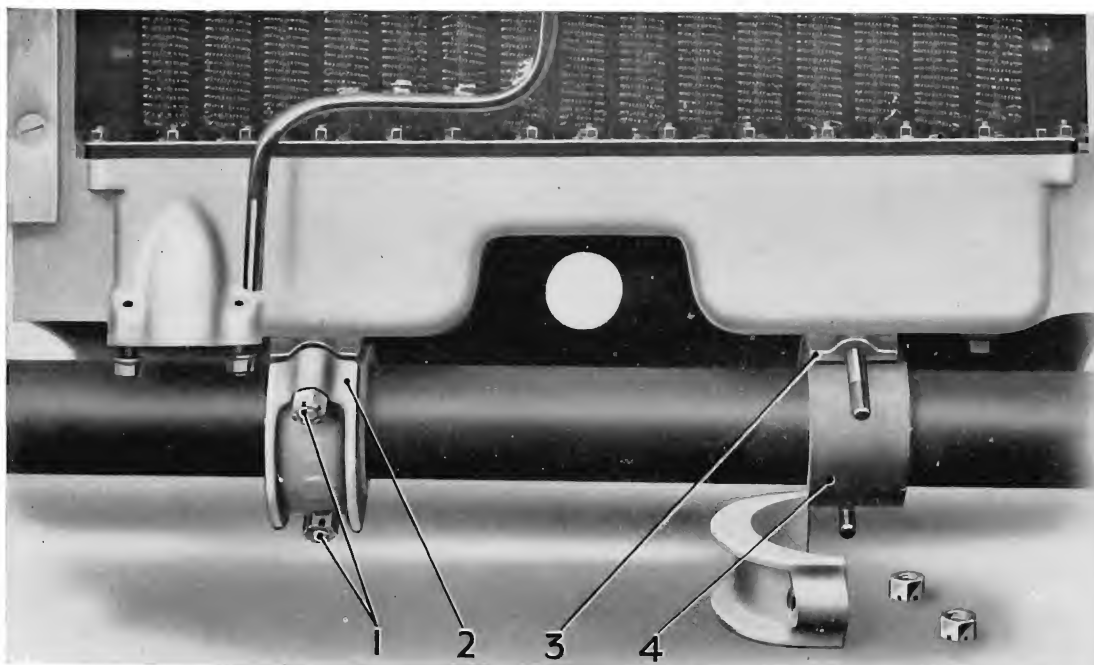

Fig. 3.
On this type of vehicle the radiator is supported on the tubular cross-member by means of two trunnions (3), Fig. 3, formed integral with the bottom tank. The radiator